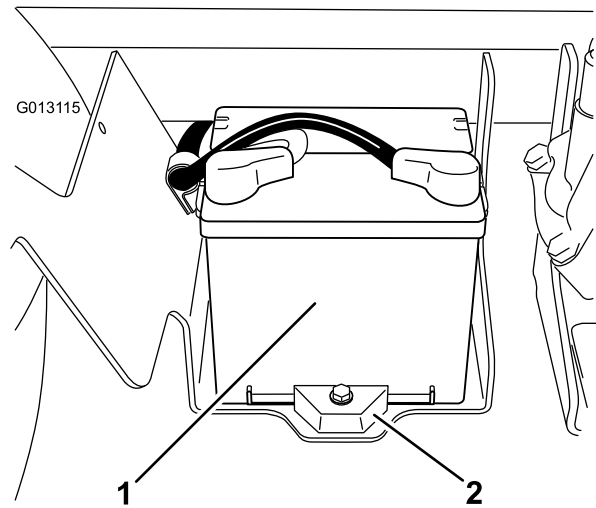

Figure 53
2. Loosen the knobs on the sides of the battery box and remove the battery cover (Figure 53).
5. Remove the battery retainer and fasteners (Figure 53).
2. Install the battery retainer and secure it with the fasteners you removed previously (Figure 53).
4. Install the battery cover and secure it with the 2 knobs (Figure 53).
1. Loosen the knobs on the sides of the battery box and remove the battery cover (Figure 53).